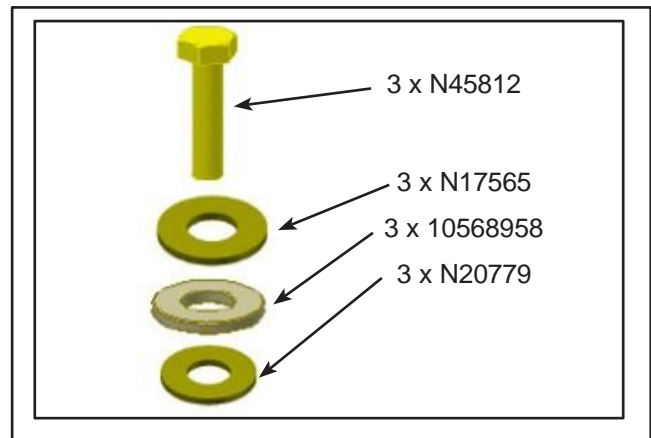

Figure 5 - Accelerator Pedal Hardware
- 1.18. Put back the pedal in place. Apply medium thread locker Loctite 243 on the 3 new screws N45812 and install with the required hardware (Figure 5). Tighten only by hand.